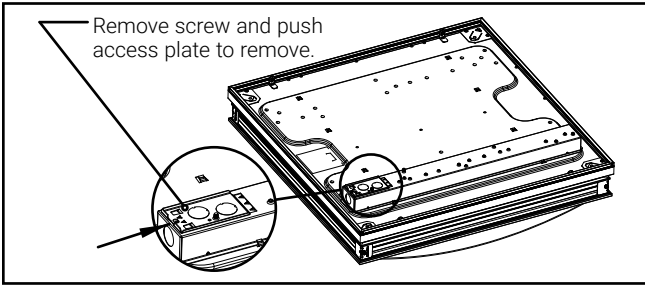

Figure 1.
3. Locate fixture access plate and slide to remove it (Fig. 1).